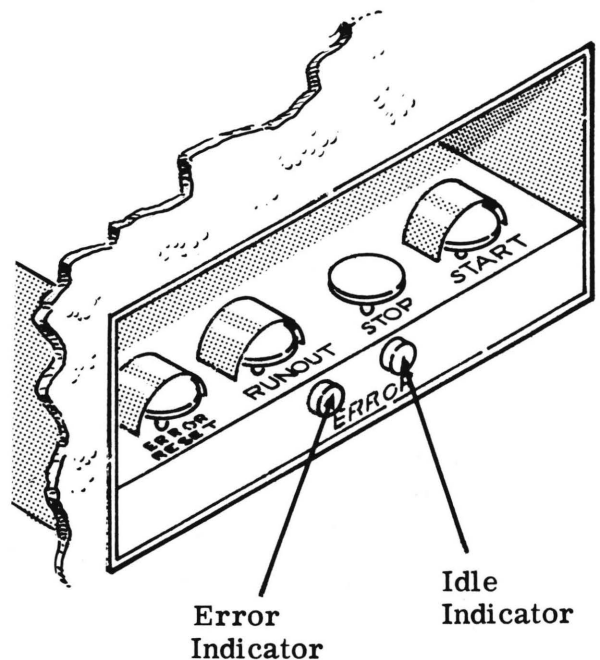

Figure 7-6. 089 Control Panel.
2. Place the input card deck in the primary feed hopper, face down, 9-edge leading. Depress the start button on the 089 (figure 7-6). Verify that the blank header card has been ejected into the second pocket. This signifies that information from the first
2. Wire a connection from PLUG-TO-C to PRIMARY FEED on the plugboard or depress the start-machine (SM) set button on the CARDATRON Control Unit.
3. Hold down the run-out button (figure 7-6) on the 089 until all cards within the device have dropped into the second pocket.